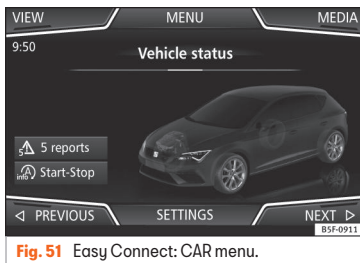

Fig. 51 Easy Connect: CAR menu.
- **OR:** Press the infotainment button **(CAR)** to open the **Vehicle** menu **»» Fig. 51**.